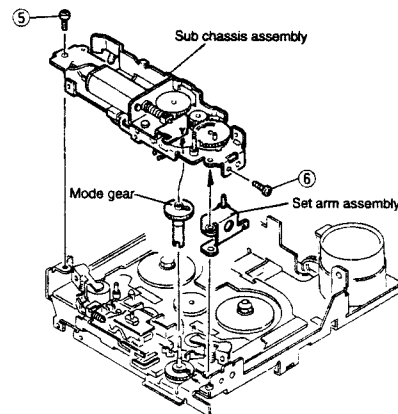

Fig. 22
2. Install the sub chassis assembly and secure it with the two screws ⑤ and ⑥ as shown in (Fig. 22).
Note: The set arm assembly and the mode gear should be positioned as shown in Fig. 22.